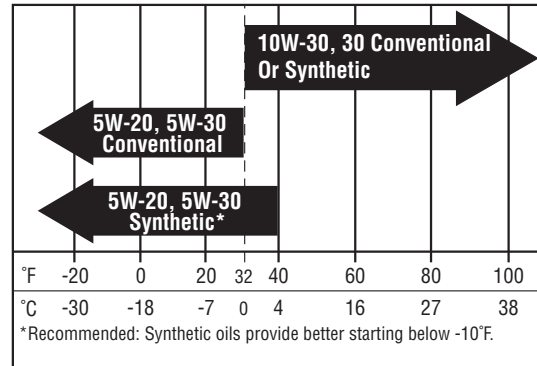
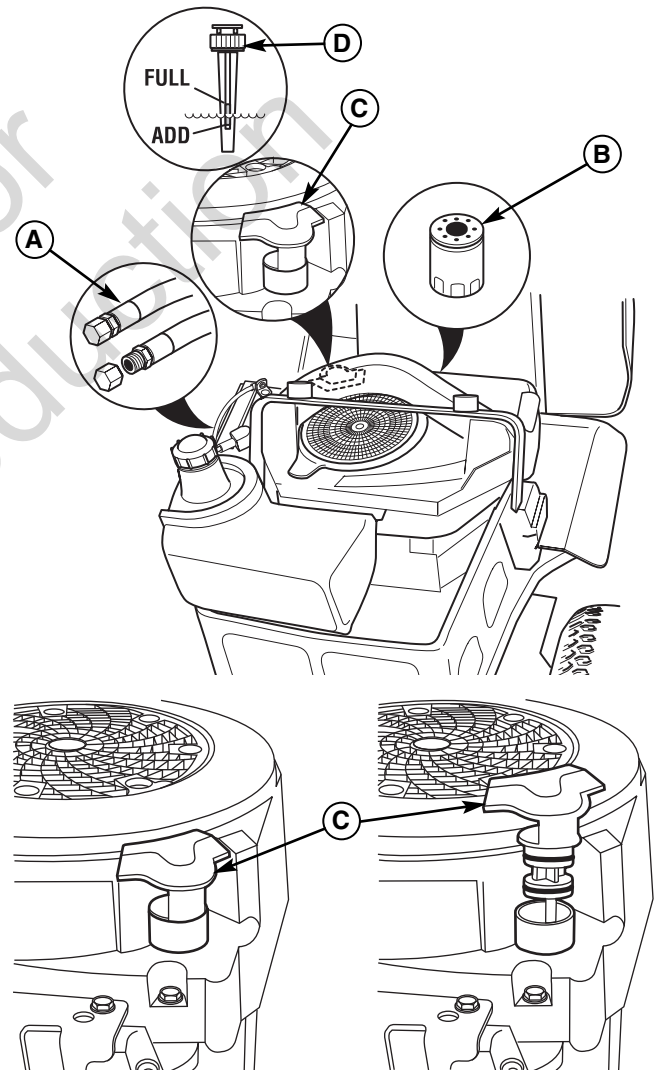

Figure 28. Recommended Engine Oil
Figure 29. Oil Change
2. Clean the area around the dip stick (C, Figure 29).
3. Remove the dip stick (C) and clean it with a paper towel.
5. Remove the dip stick and read the oil level. The oil level should be between the "F" and "L" marks (D). If not, add oil according to the oil recommendations chart (see Figure 28).
1. Clean the area around the dip stick (C, Figure 29) and oil drain (A).
2. Remove the oil drain plug (A) and dip stick (C). Allow ample time for complete drainage.
3. Remove the oil filter (B). Discard the filter.
7. Reinstall the oil drain plug (A) and route the oil drain hose along side the engine.